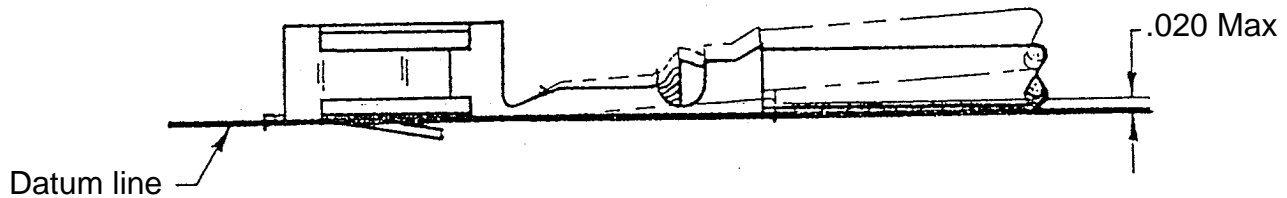

FIGURE 3
1. The contact, including the cutoff tab and burr shall not be bent below the datum line or more than .020 above the datum line, as shown in Figure 3.